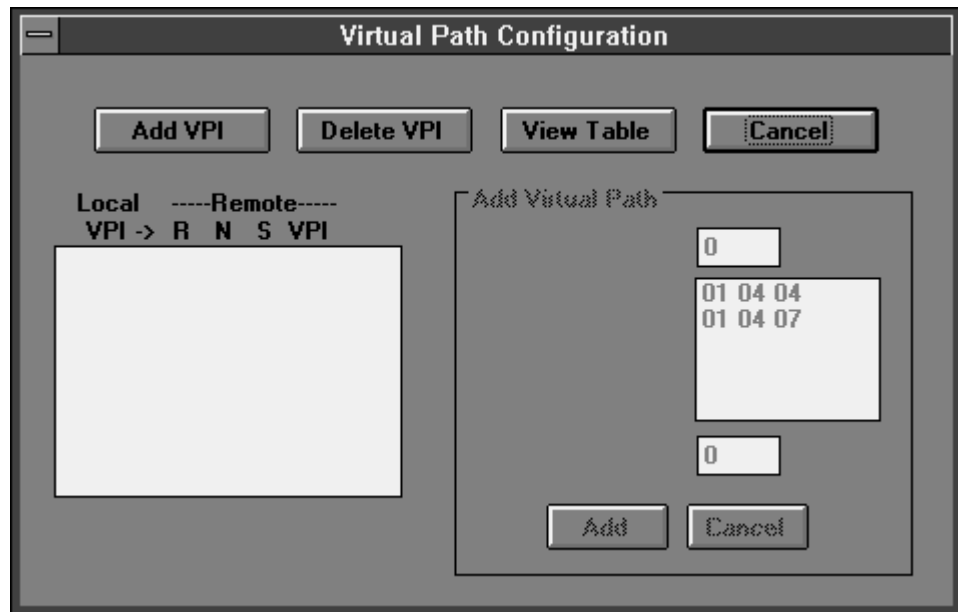

Figure 3-29. Virtual Path Configuration
3. Select Do Virtual Path Configuration from the ATM Configurators screen. The Virtual Path Configuration screen appears (refer to Figure 3-29).